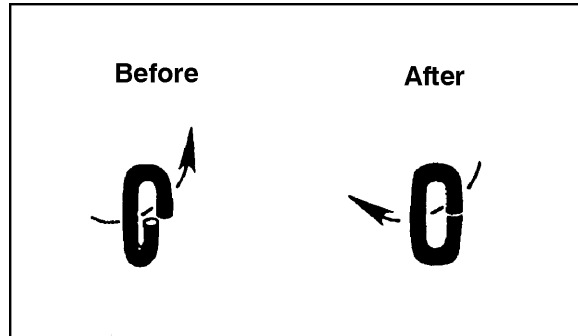

Figure 8
- Using an adjustable wrench, twist the link horizontally until the link is in the original closed position. See Figure 8.